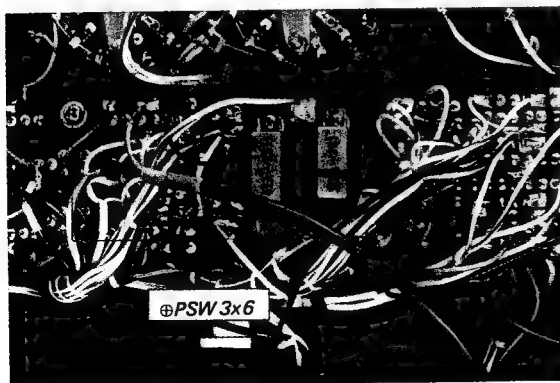

Fig. 2-7. PC board removal
2. Remove the two screws (\oplus PSW 3x6) securing the PCB to the front subchassis as shown in Fig. 2-7.